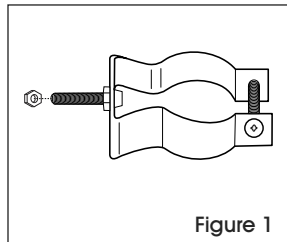

Figure 1
1. Attach one bolt and one nut to each bracket assembly. Fully tighten. (See Figure 1)